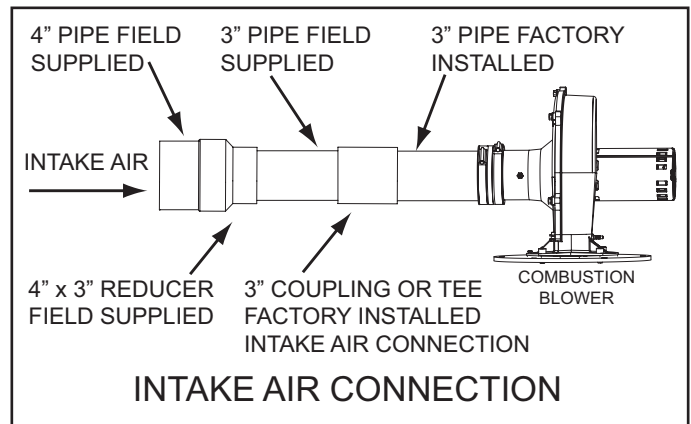

Figure 20
15. If installing 4 inch intake air pipe transition to 3 inch pipe at the intake air connection on the water heater as shown in Figure 20. The field installed 3" pipe between the intake air connection and the 4" x 3" reducer coupling should be 18 inches (45 cm) or less in length.